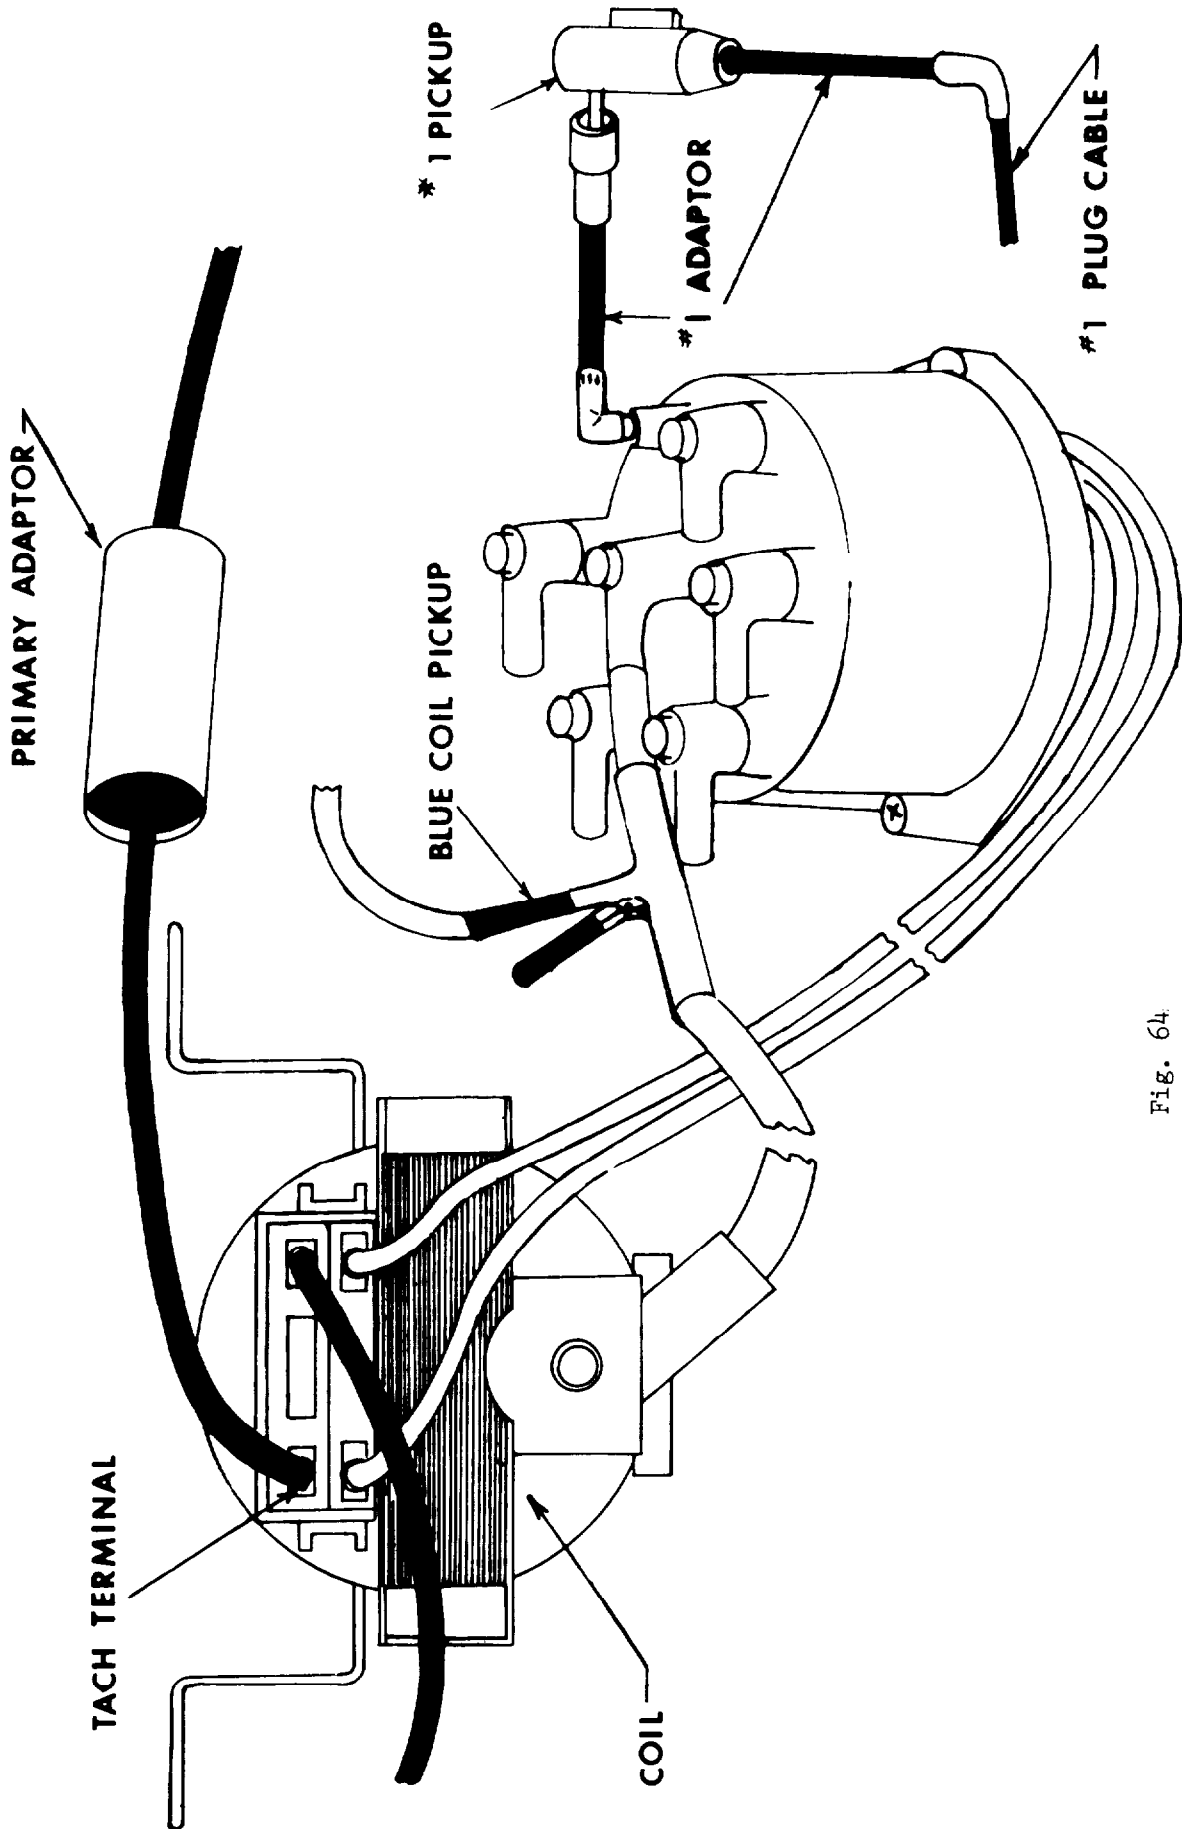

Fig. 64.
- Refer to Figure 64 for the test lead hookup procedure on 6 cylinder engines.